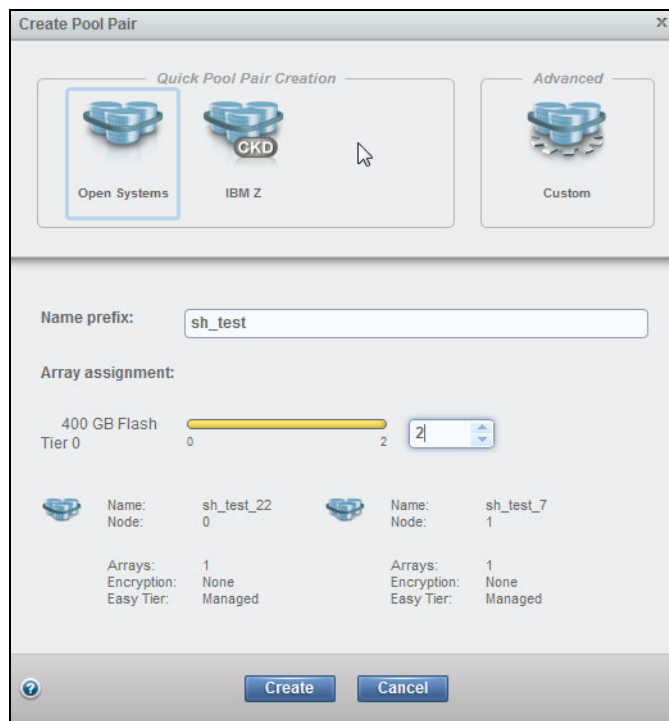

Figure 11-42 Create FB pool pair and assign arrays to a pool pair
4. Specify the pool pair parameters, as shown in Figure 11-42:
- **Storage type:** Ensure that **Open Systems (FB)** is selected.
4. Specify the pool pair parameters, as shown in Figure 11-42 on page 310:
- Storage type: Ensure that **Open Systems (FB)** is selected.